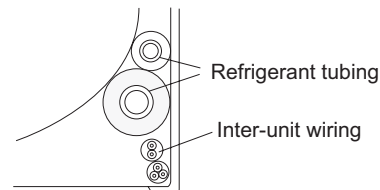

Fig. 2-226
- (3) Install the indoor unit on the rear panel.
- (4) Connect the tubing and wiring led inside from outdoors.
- (5) After completing a leak test, bundle the tubing together with armoring tape and store it inside the tubing storage area at the back of the indoor unit and hold it with clamps. (Fig. 2-226)